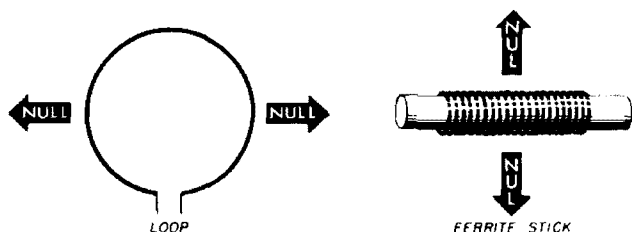

fig. 8. Nulls of loop antenna and ferrite loopstick.
8. A typical ferrite directional antenna for the 2- to 8-MHz region consists of 14 turns of number-18 wire wound on a 3/8 by 6-inch ferrite loopstick.¹⁴ It is tuned by a 200-pF variable. The nulls of a ferrite loop are perpendicular to the core (fig. 8). The axis of the core is in the direction of maximum sensitivity.